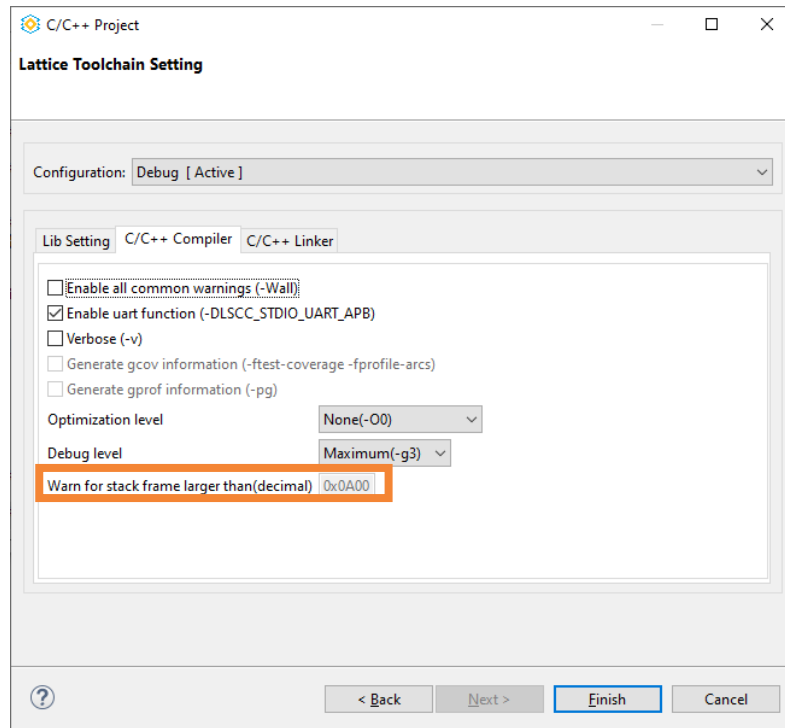

Figure G.5. Toolchain Setting GUI 1
- For general templates shown in Table 5.1, their stack size is fixed and cannot be modified. During the C project creating flow, in the **Lattice Toolchain Setting GUI** (Figure G.5), the **Warn for stack frame larger than** item cannot be edit to make sure the template code runs correctly.